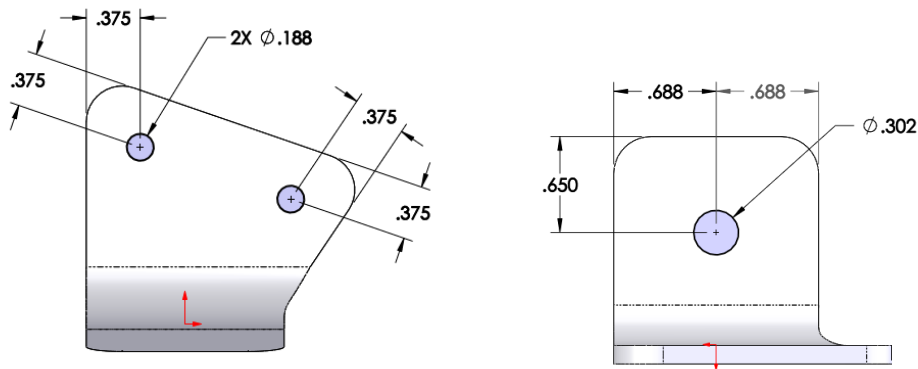

Figure 4 – Bracket Prep
- If your SC29103-001/-002 brackets do not already have pilot holes, measure and drill $\text{\O}.$ 188 and $\text{\O}.$ 302 holes as shown in Figure 4.